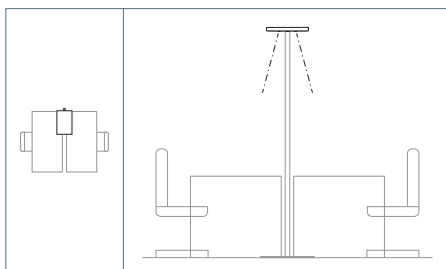

Fig. 7: Aligning sensors for workplace occupancy: 2 workplaces.
2. Pivot each sensor as far as it will go in the direction of the front edge of the desk, see Fig. 7.